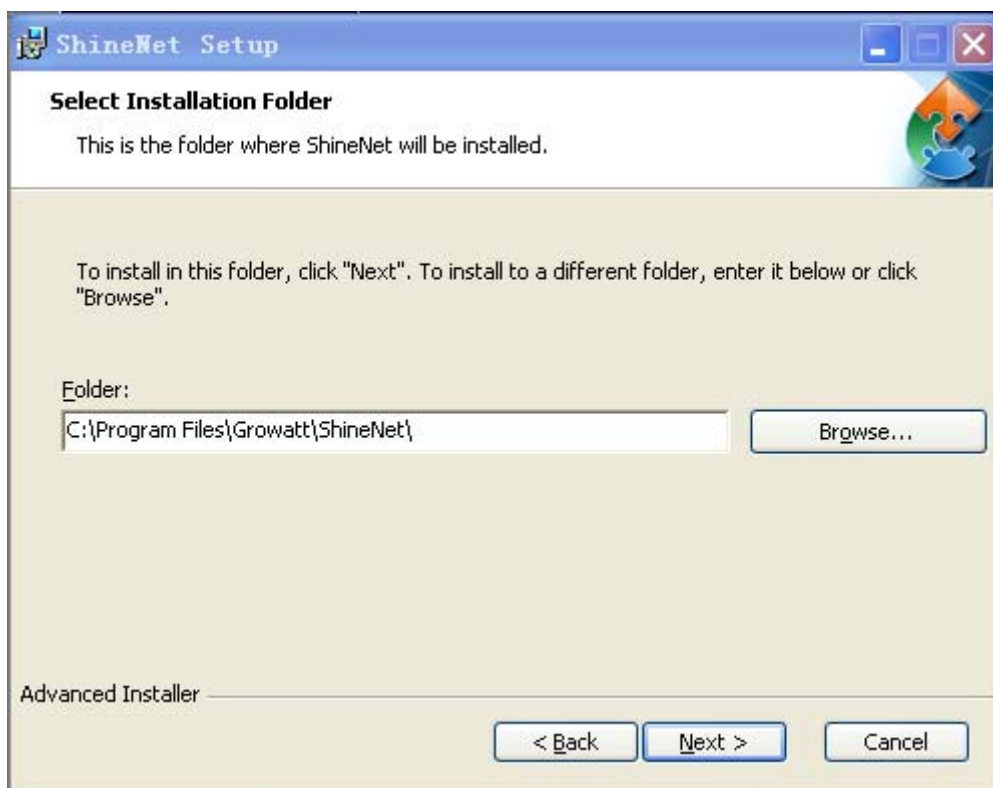

Figure 3-2-2
3. Click next, then shown as following figure 3-2-2.